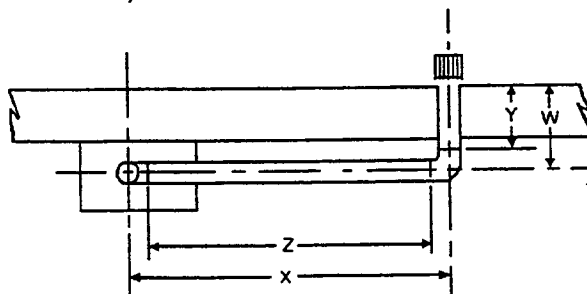

Fig.17
5.5.23 Measure carefully the distance between the centre of the flue bend on the boiler to the centre of the hole through the wall (dimension X fig. 17).
- 5.5.30 Ensure that the flue pipe runs parallel to the wall then carefully measure the distance from the outside face of the wall to the centre of the extra bend (dimension W Fig. 17).